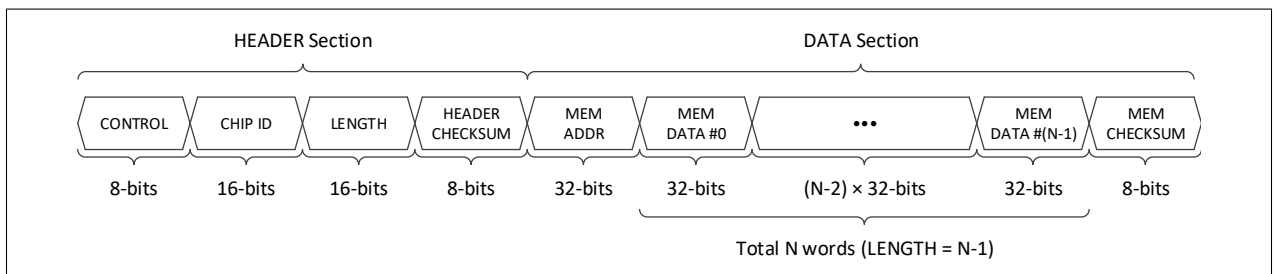

Figure 6: GOC/EP Packet
- Each GOC/EP PACKET is composed of HEADER section and DATA section as seen in Figure 6.
- HEADER section is further composed of four sub-sections (CONTROL, CHIP_ID, LENGTH, HEADER_CHECKSUM) as shown in Figure 6, and must be sent by this order.